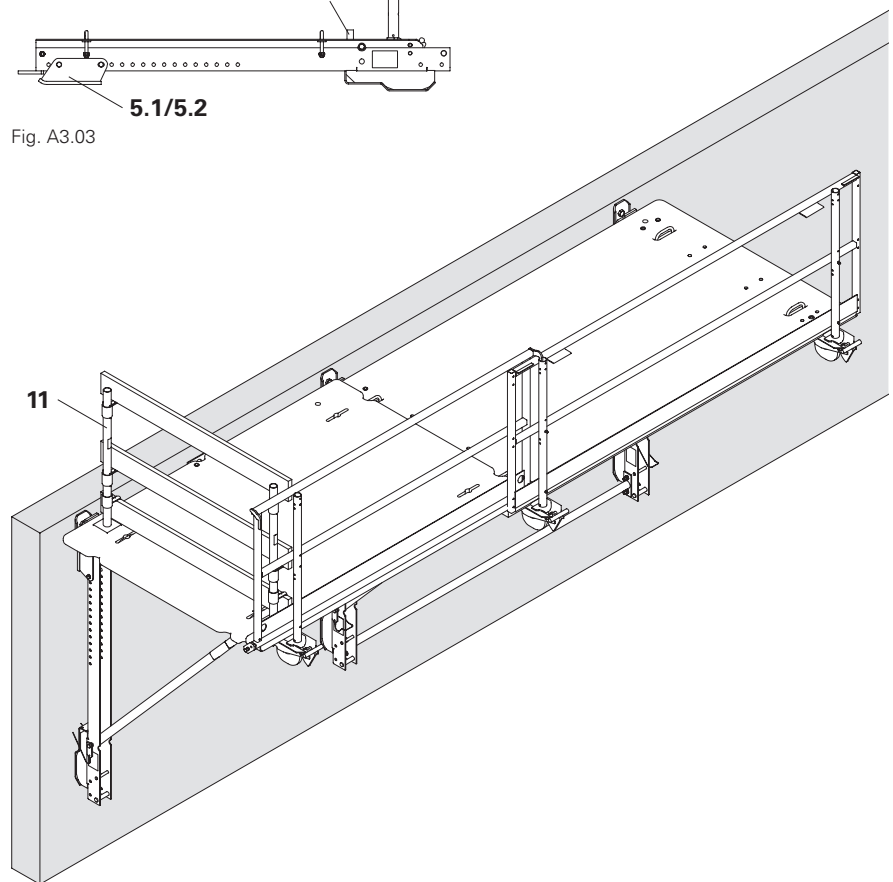

Fig. A3.04
- If an end guardrail is required, 2 End Posts FBP (11) are to be used instead of the screw plates. (Fig. A3.04)
- 2x handrail planks and 1x toe board 3 x 15 cm, L = 1.60 m. position lock with Torx 6 x 40. (Fig. A3.04)